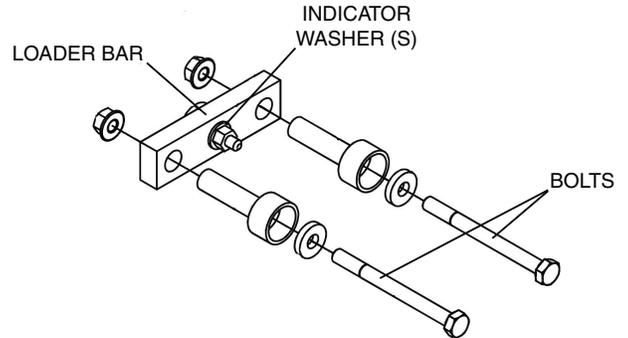

Fig. 57 — SCR Installation
4. Finger tighten the clamp. Ensure both bolts are tightened an equal amount so that the loader bar is square in the heatsink. See Fig. 57.
center of the loader bar becomes loose indicating that the clamp is tight. See Fig. 57. On the loader bars with two indicator washers, it may be necessary to tighten or loosen one side of the clamp to get both indicator washers free. Reconnect the red (cathode) wire from the SCR and the white (anode-gate) wire to the appropriate location on the firing card (i.e., SCR1 wires to firing card terminal G1-white wire, and K1-red wire).